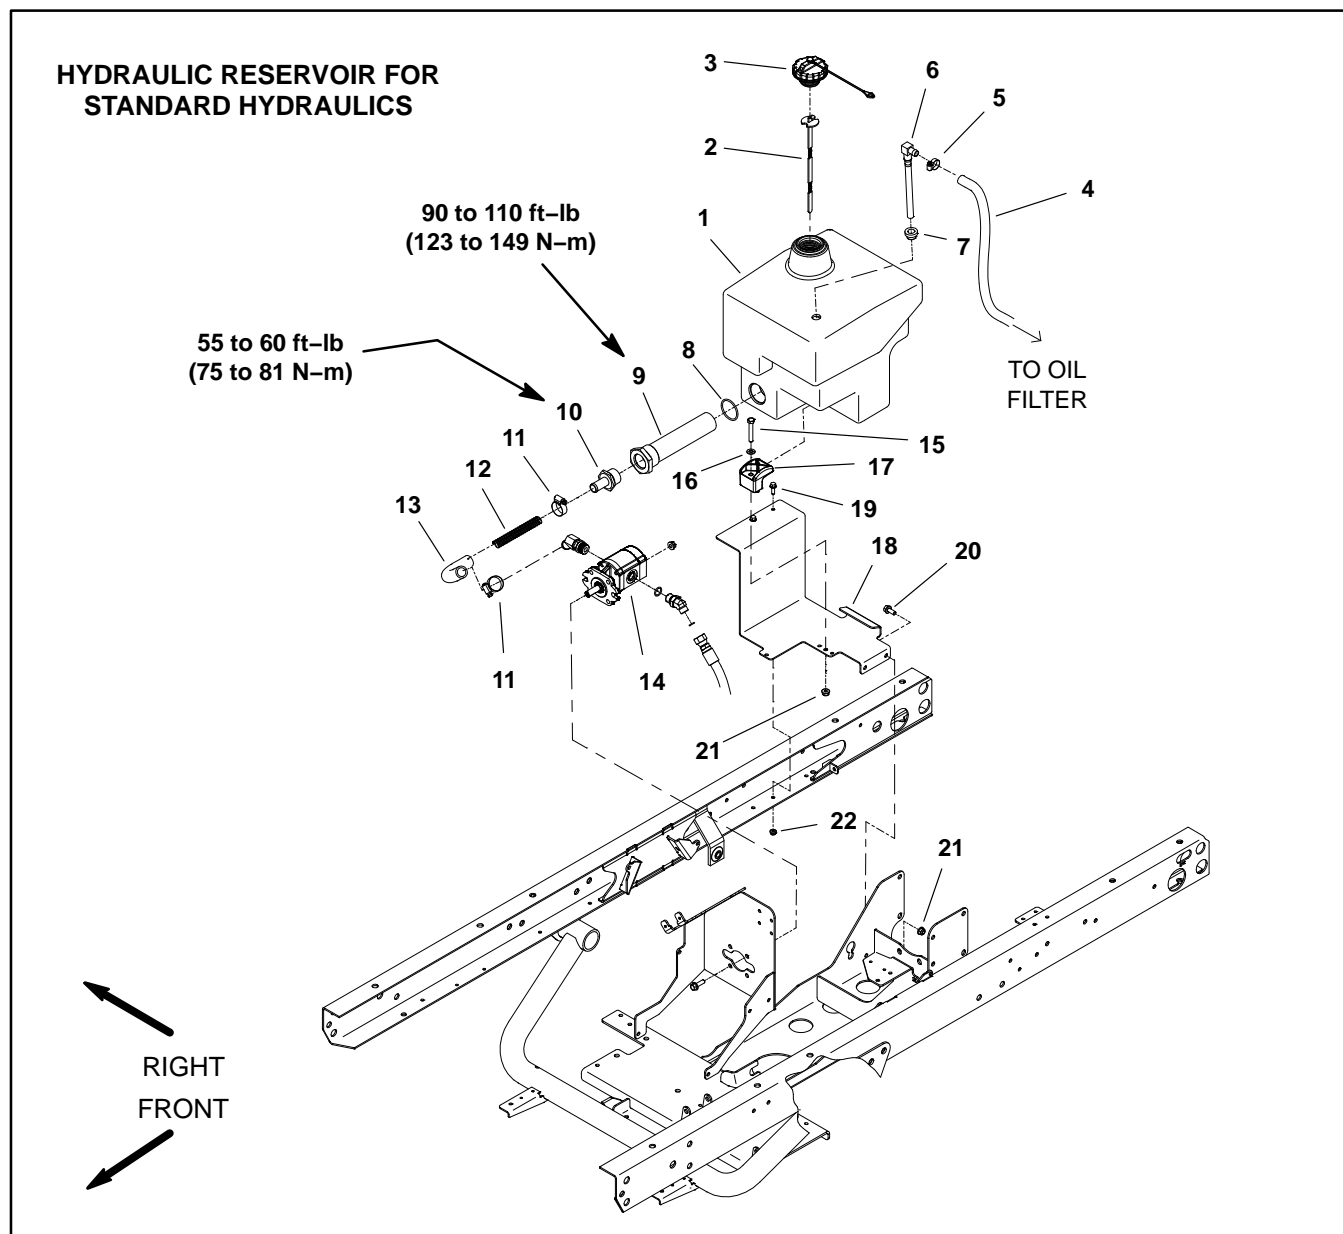
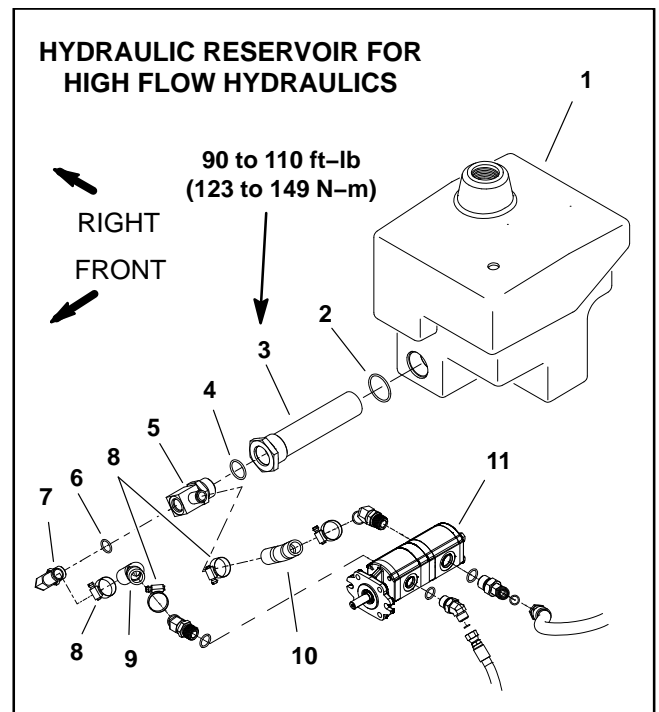

Figure 24
Figure 25
The hydraulic reservoir on all Workman HDX Auto vehicles is the same. Vehicles with standard hydraulics use a single section gear pump and single suction hose (shown in Fig. 24). Vehicles with high flow hydraulics use a two (2) section gear pump with two (2) suction hoses (shown in Fig. 25).
4. Label all hydraulic hoses and fittings for assembly purposes. Remove hydraulic hoses from fittings on hydraulic reservoir (Fig. 24 or 25). Drain hoses into a suitable container.
6. Remove clamp (item 17 in Fig. 24) that secures hydraulic reservoir to bracket.
8. As needed, remove fittings and strainer from hydraulic reservoir using Figure 24 or 25 as a guide. Discard and replace any removed O-rings.
1. Install removed strainer and hydraulic fittings with new, lubricated O-rings to hydraulic reservoir using Figure 24 or 25 as a guide (see Hydraulic Fitting Installation in the General Information section of this chapter). Torque fittings to values identified in illustration.
2. Position hydraulic reservoir to bracket. Secure reservoir to frame with clamp (item 17 in Fig. 24) and removed fasteners.
4. Using labels placed during removal, attach hydraulic hoses to fittings on hydraulic reservoir (Fig. 24 or 25) (see Hydraulic Hose and Tube Installation in the General Information section of this chapter).